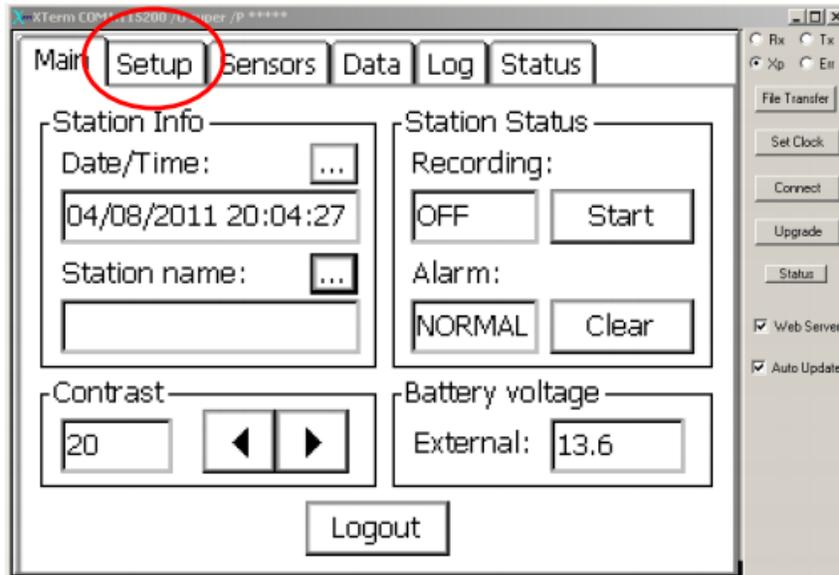

Figure 3-7. Xpert Setup Access screen.
5. After the **Setup Access** button is selected, the screen shown in fig. 3-7 will appear. Click the **Setup** tab to begin configuring the new sensor.